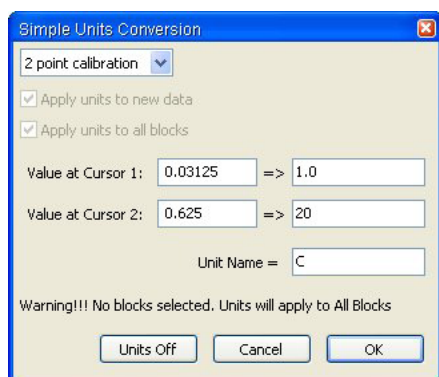

Fig. 40—(Right) Simple Units Conversion dialog box: temperature conversion
- For prescaling, click the **Units** button (on the right) for the desired channel. The **Simple Units Conversion** dialog box appears (**Fig. 40**). Use the two-point calibration and verify that the **Apply units to all blocks** check box is selected.